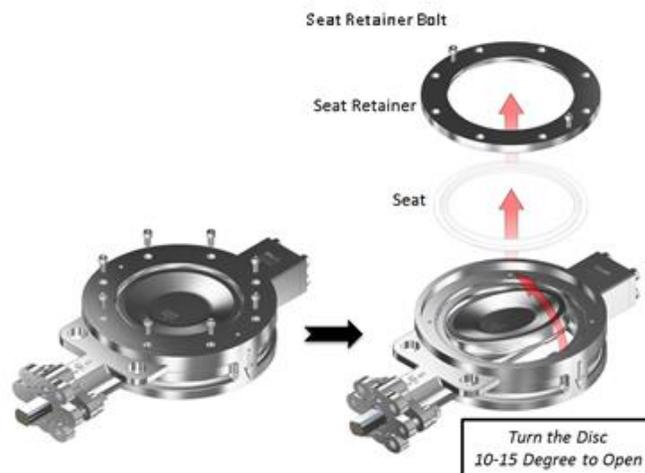

FIGURE 5. SOFT SEATED DISASSEMBLY DIAGRAM
1. Refer to Figure 5 for soft seat disassembly.